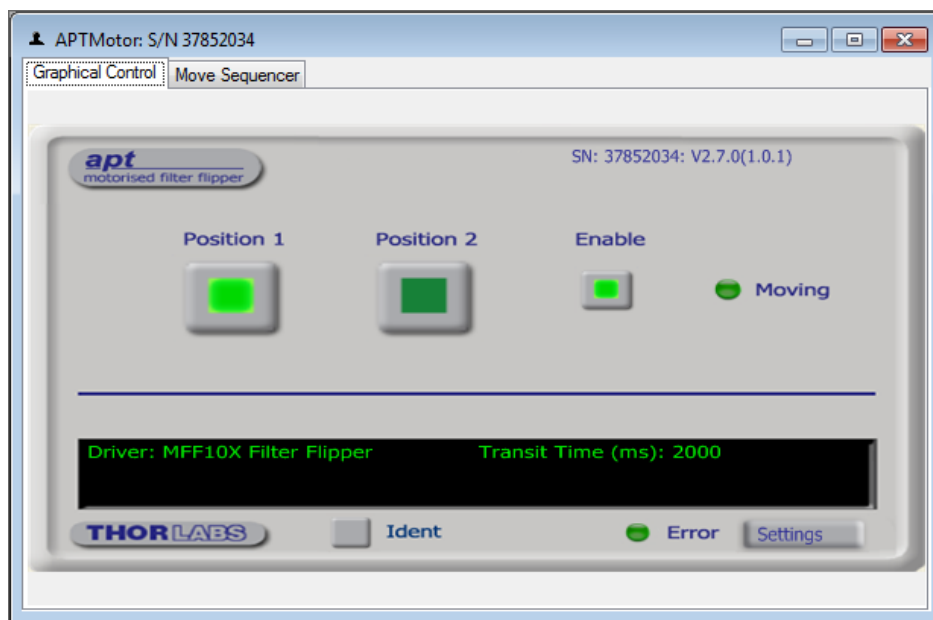

Fig. 1.— The APT control software for the MFF101 flippers used for the mirrors in the Calibration Unit.
3. Run the APT software (programs → Thorlabs → APT → ATP User. You should see a window that looks like that shown in figure 1.
4. Press the 'settings' button (bottom right hand corner of the gui as shown in figure 1). You should see a window like the one shown in figure 2.